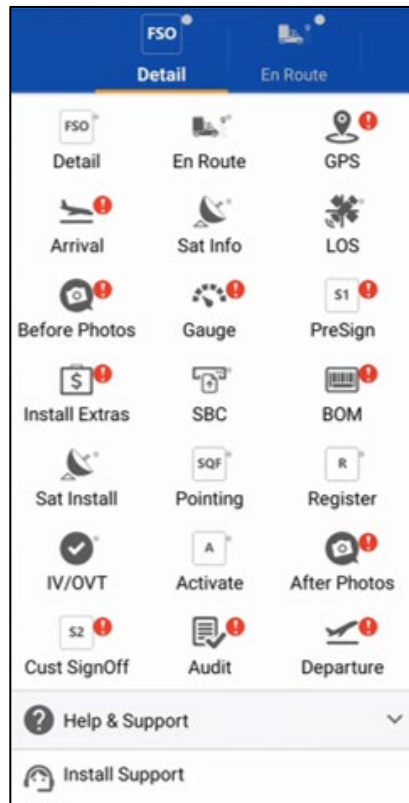

Figure 18: More menu
- **More** (☰) – An expanded menu that allows you to jump to any step within the OASIS workflow (see Figure 18).